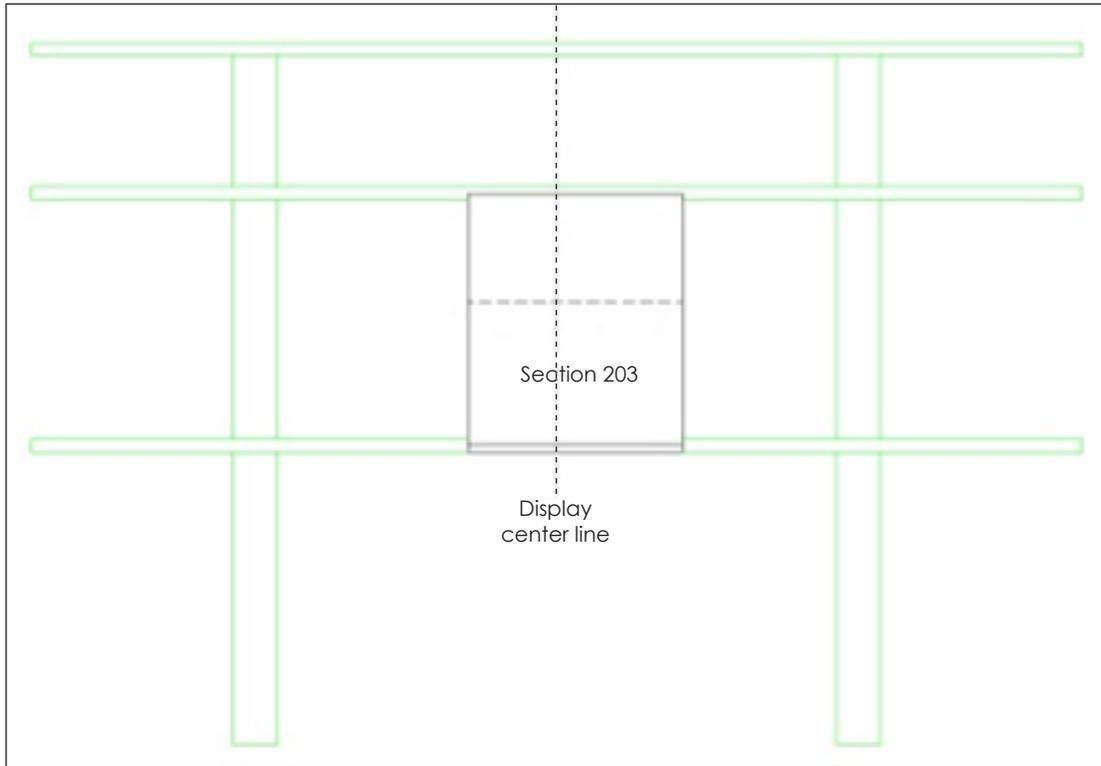
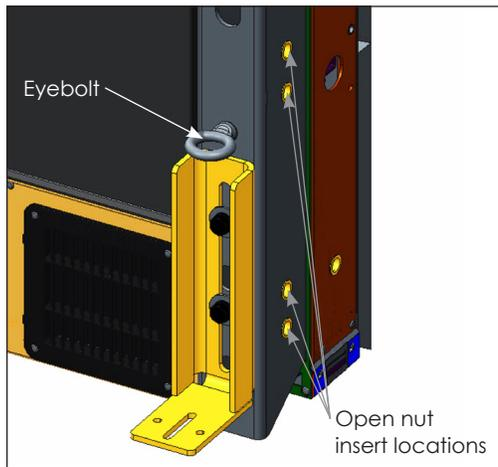
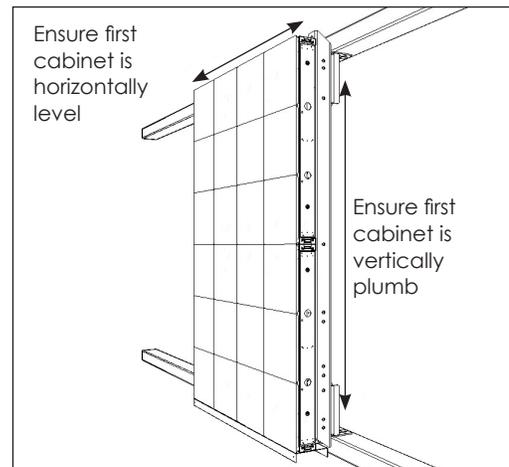

Figure 22: Install Center Section on Bottom Row
Figure 28: Recommended Tag Line Attachment
Figure 29: Horizontally Level & Vertically Plumb Cabinet
3. Refer to **Installation (p.15)** and install the first section on the bottom row. Refer to **Figure 22**.
Refer to **Figure 22**, **Figure 28**, and **Figure 29** while completing **Steps 1-4** for placing the first section.
2. Loosen the top clip angles before flying the cabinet into place to easily adjust the clip angle placement on the structure. Using tag lines when lifting sections into place is recommended. A $\frac{1}{2}$ " eyebolt can be installed into the nutserts in the rear of the full-height tubes. Refer to **Figure 28**. Tag lines should be attached to these bolts and *not* to the clip angles, door handles, vent panels, or other areas of the cabinet, as this can damage the cabinet.
3. Fly the first section into position; adjust and tighten the clips accordingly. Ensure it is both vertically plumb and horizontally level, as other sections rely on this section's position. Refer to **Figure 29**.